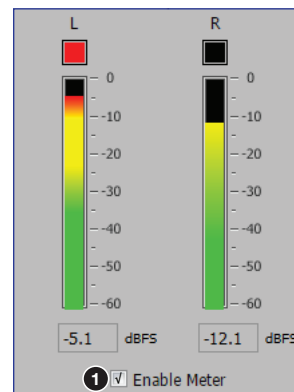

Figure 19. Audio Output Meter
Left and right channel indicators display the audio output level (in dBFS) of the encoded output stream when there is an active audio output. The boxes at the top of the meters are red when audio clipping occurs and black when audio is not clipped. To enable the meters, select (check) the **Enable Meter** checkbox (see figure 19, ①) below the meters.